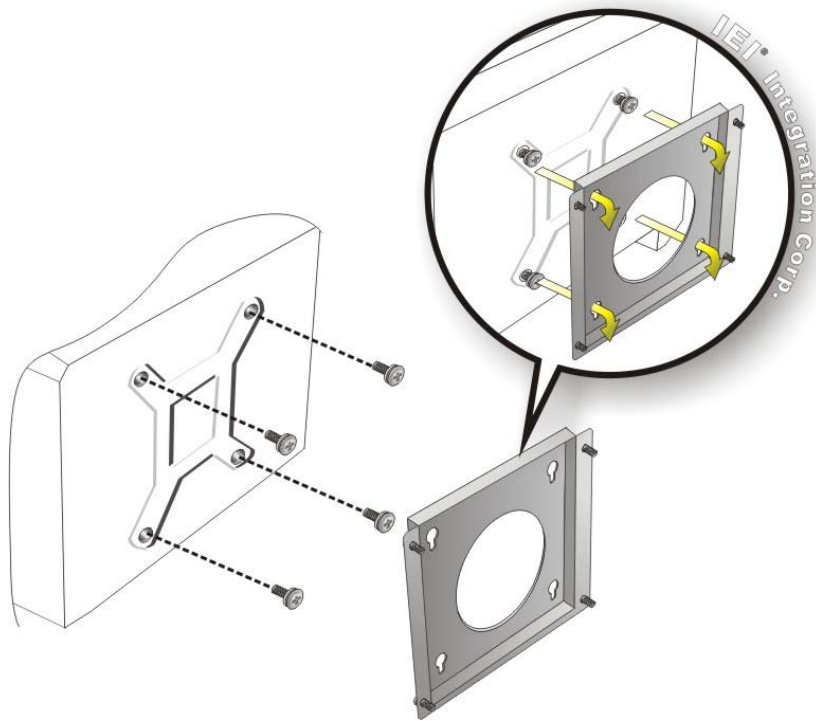

Figure 3-23: Mount the Chassis
- Step 6:** Insert the four monitor mounting screws provided in the wall mounting kit into the four screw holes on the rear panel of the monitor and tighten until the screw shank is secured against the rear panel (**Figure 3-23**).
- Step 8:** Carefully insert the screws through the holes and gently pull the monitor downwards until the monitor rests securely in the slotted holes (**Figure 3-23**). Ensure that all four of the mounting screws fit snugly into their respective slotted holes.